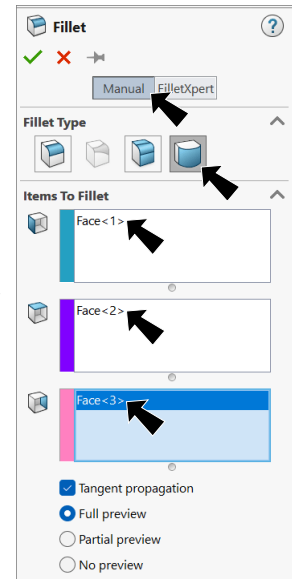

Fig. 9
Step 2. In the Fillet Property Manager, select **Manual**, **Fig. 9** under Fillet Type